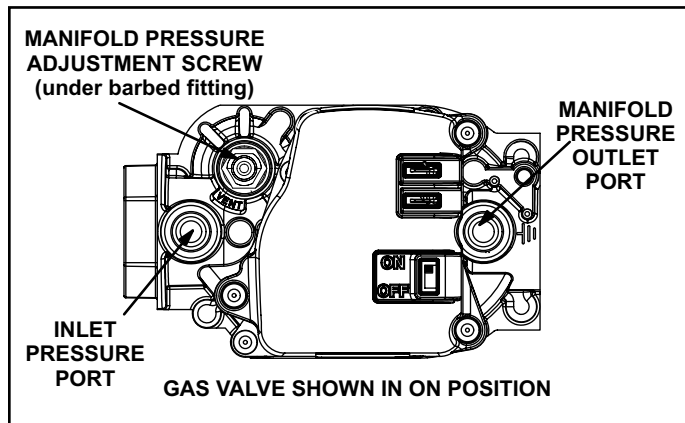

Figure 17. Gas Valve
Gas Valve Operation (Figure 17)
6. Move gas valve switch to OFF. See Figure 17.
8. Move gas valve switch to ON. See Figure 17.
4. Move gas valve switch to OFF position. Do not force. See Figure 17.